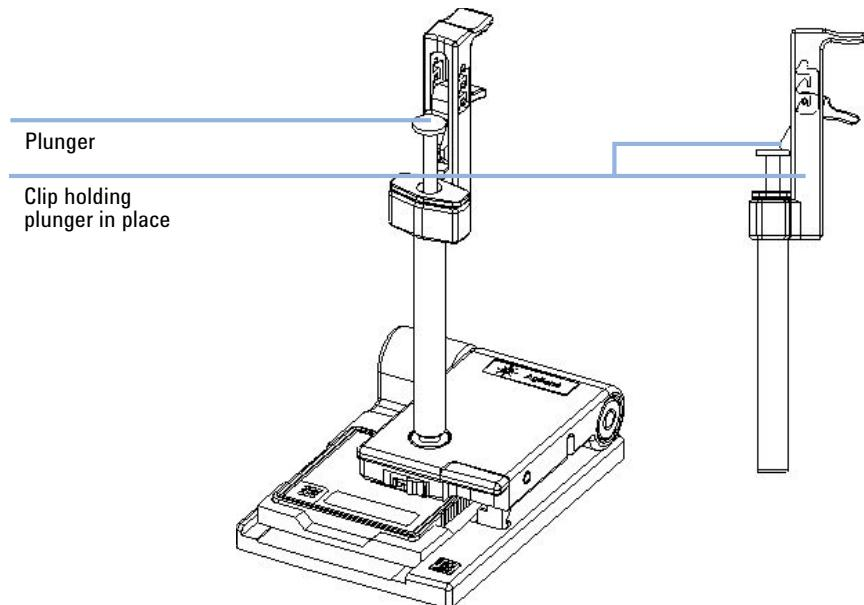

Figure 8 Locking the plunger of the syringe with the clip
- 5 Press the plunger down until it is locked by the clip. This is shown in Figure 8 on page 139.